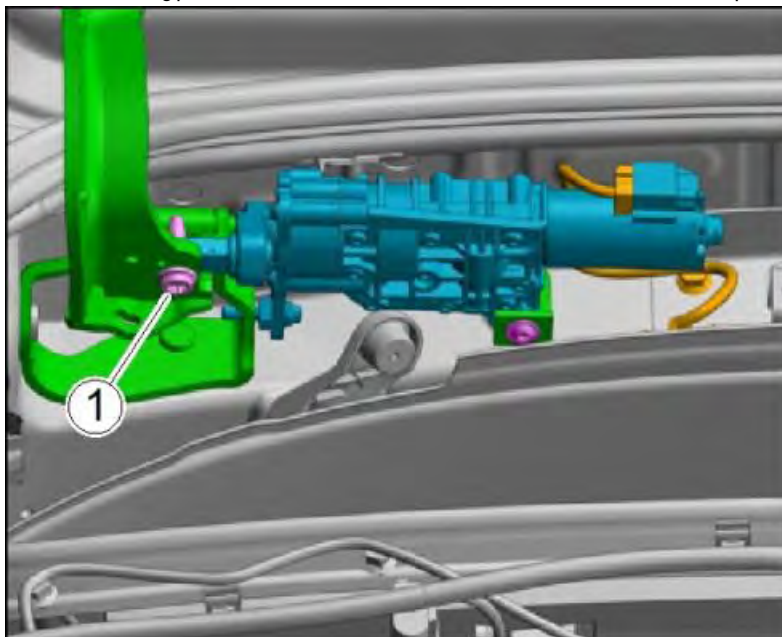

Figure 4
3. With the above roof trim and harness clip removed then fastener -1- can be accessed. Apply a torque of 30Nm to fastener -1-. (see Figure 4)